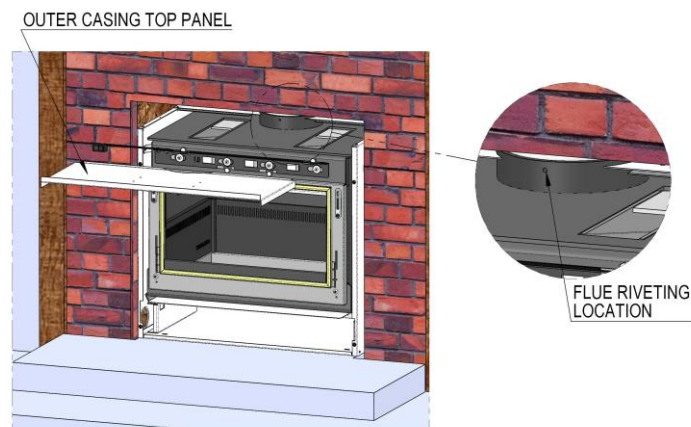

Fig. 8
P. Xander Flue Spigot Fixing (Fig. 8)